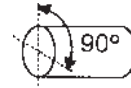

Fig. 3
- If the log moves away from the blade, retract the ram and rotate the log through 90° as shown in Fig. 3.